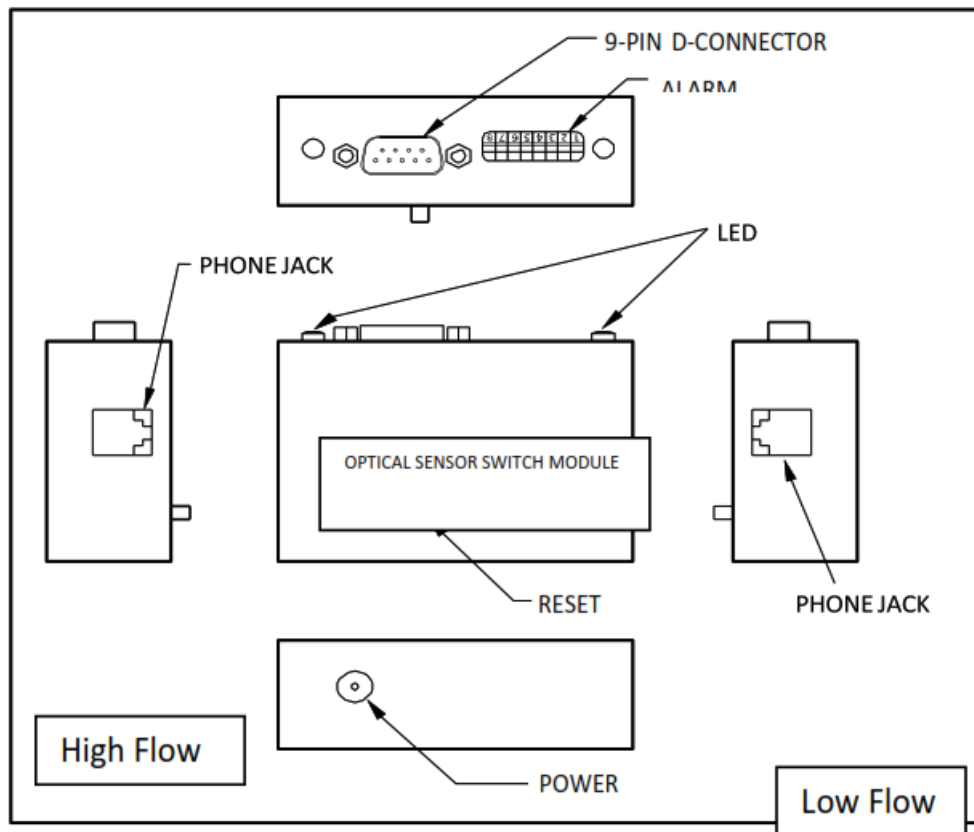

Figure 1: OSSM module
The module could be powered up either by a +12+15 VDC power supply with a minimum current rating of 250 mA, or by the 9-pin D-connector (DB9M) (Fig. 1) for momentary or latch operations.
3.1. Insert the LOW flow sensor’s plugs into the splitter, then the splitter’s plug into the module’s phone jack #1 (Fig. 1).
3.2. Insert the HIGH flow sensor’s plugs into the splitter, then the splitter’s plug into the module’s phone jack #2 (Fig. 1).
3.3 Connect the power supply through the power jack (Fig. 1). Or Attach the 9-pin D-connector to the module (fig. 1 & 2).